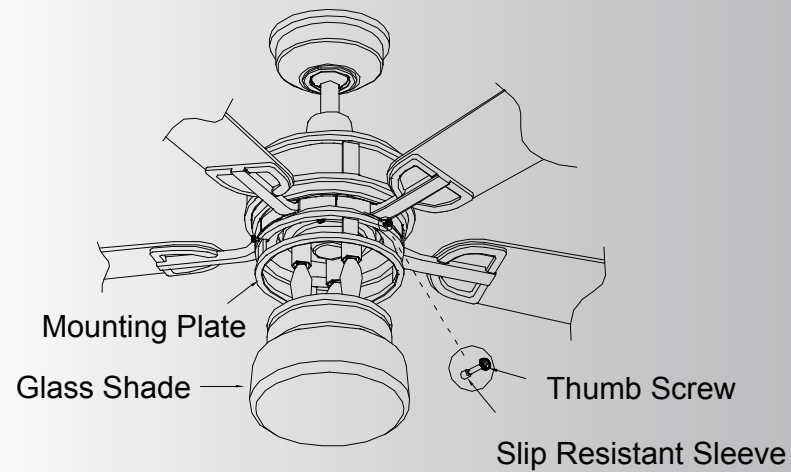

Fig. 23
Step 2. Place the slip resistant sleeve on the end of the thumb screw with knurled head. Lift the glass shade allowing it against the mounting plate and securely tighten with the 3 thumb screws. Do not overtighten the screws.(Fig.23)